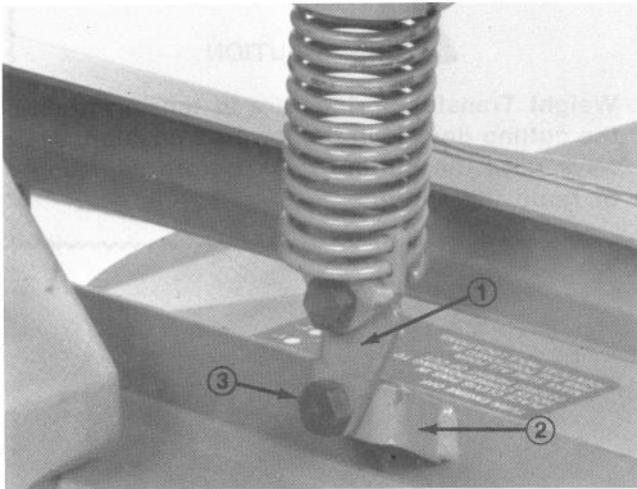

Figure 6
6. Attach the bottom knee link bracket(s) to the deck bracket(s) with a shoulder bolt, flatwasher, and lock nut (Fig. 6). Do not over tighten the shoulder bolt, bracket should pivot freely.